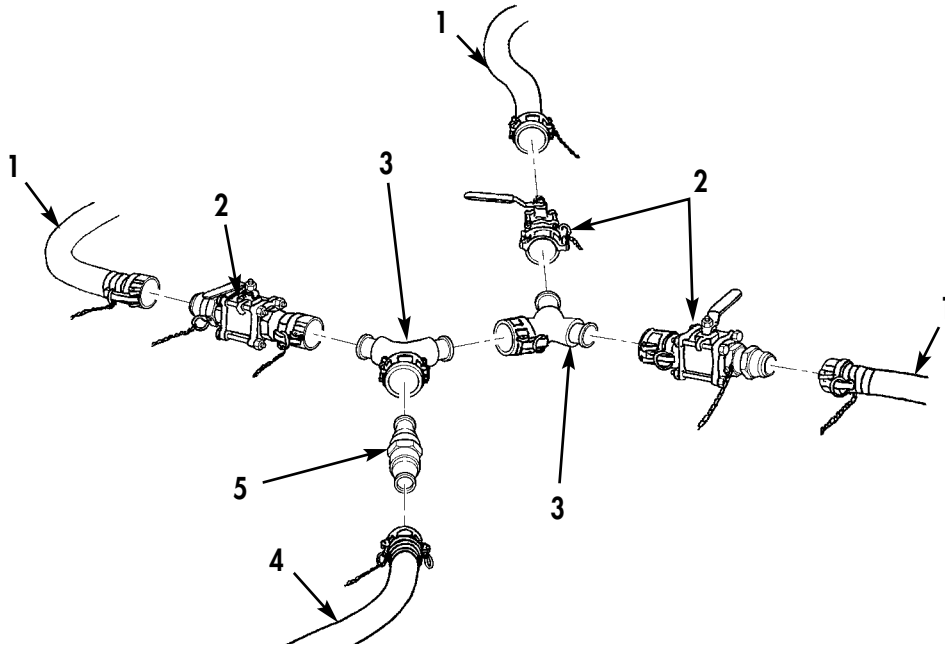

Figure 3. Ball Valve Connections.
6. Remove plug and cap, and connect ball valve (Figure 3, Item 2) to 2 in. (51 mm) DIA x 10 ft (3 m) long hose assembly (Figure 3, Item 1) on three drums.
7. Remove plug and cap, and connect two Y-fittings (Figure 3, Item 3) together.
8. Remove three plugs and caps, and connect three ball valves (Figure 3, Item 2) to two Y-fittings (Figure 3, Item 3).
9. Remove plug and cap, and connect male adapter (Figure 3, Item 5) and 2 in. (51 mm) DIA x 10 ft (3 m) long suction hose assembly (Figure 3, Item 4) to Y-fitting (Figure 3, Item 3).